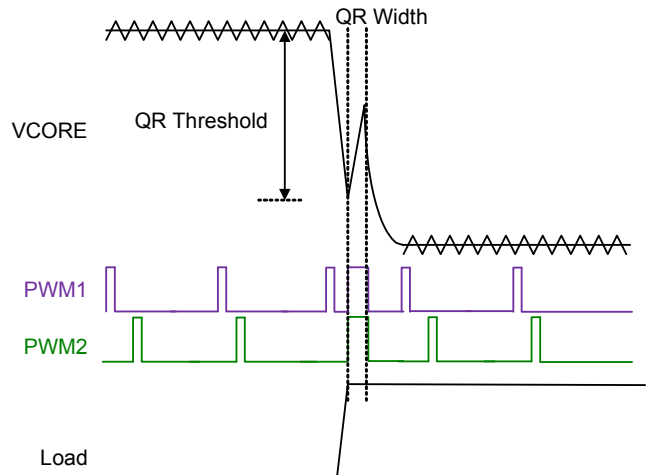

Figure 25. Quick Response Mechanism
When the transient load step-up becomes quite large, it is difficult for loop response to meet the energy transfer. Hence, that output voltage generate undershoot to fail specification. The RT3601BC has Quick Response (QR) mechanism being able to improve this issue. It adopts a nonlinear control mechanism which can disable interleaving function and simultaneously turn on all UGATE one pulse at instantaneous step-up transient load to restrain the output voltage drooping. Figure 25 shows the QR behavior.